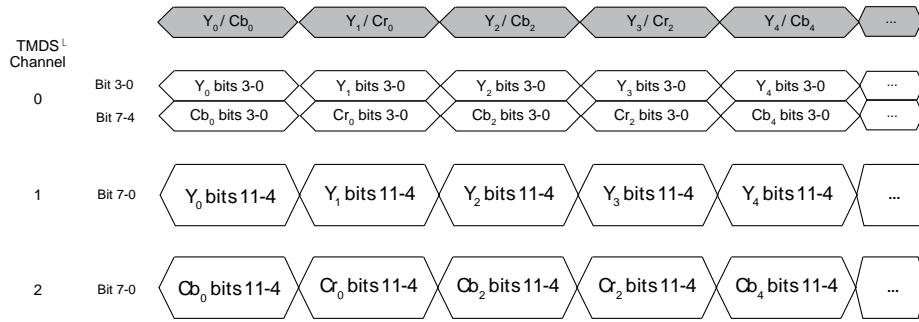

Figure 91: YCbCr 4:2:2 Video Data Encapsulated in HDMI Stream
- Figure 91), the HDMI section upconverts the video data into a 4:4:4 format, according to the UP_CONVERSION_MODE bit, and passes the upconverted video data to the DPP section (refer to